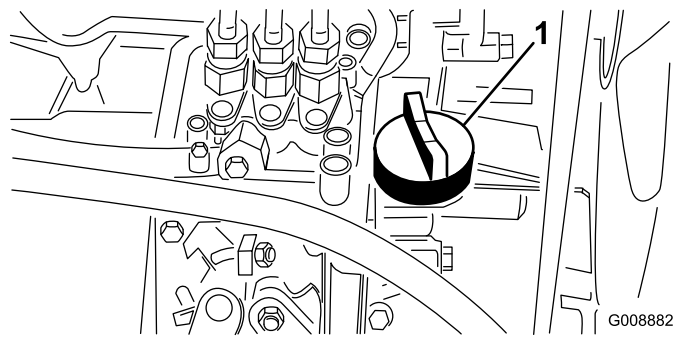

Figure 60
4. If the oil level is low, remove the oil-fill cap (Figure 60) and gradually add small quantities of oil, checking the level frequently, until the level reaches the Full mark on the dipstick.